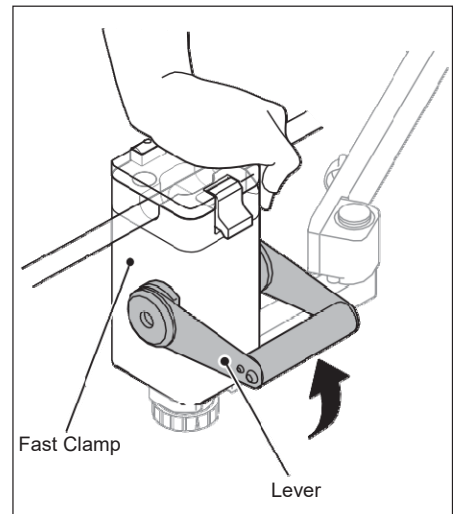

Figure 5-12
6. While holding the lid of the Fast Clamp, pull up the lever until you hear a click. (Figure 5-12)